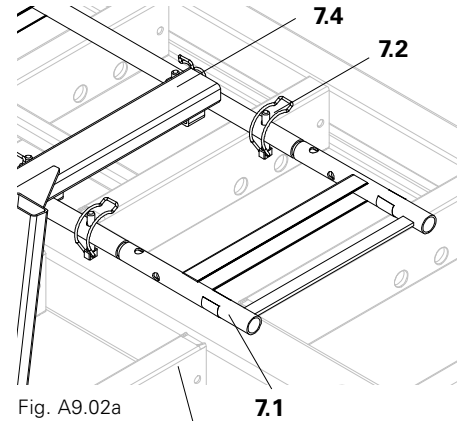

Fig. A9.02a
1. Fix Ladder Base (7.1) to the ladder using retaining clips (7.2). (Fig. A9.02a)
2. From below, push Ladder (7) through the opened hatch, position rungs in the holder and secure by means of connectors (7.3). (Fig. A9.02a)